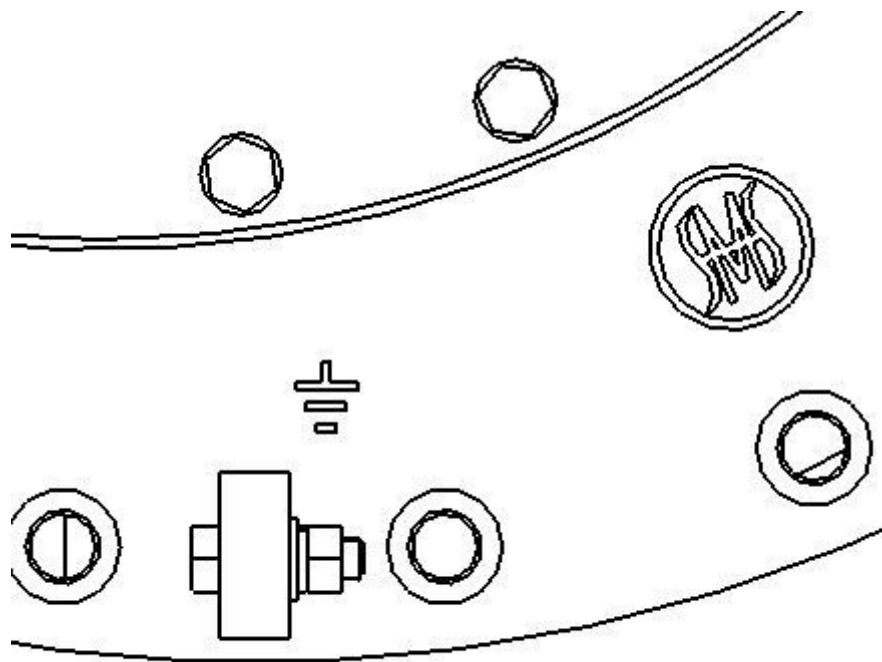

Figure 28
1. Connect the grounding screws of the OLTC head (1 screw M12 with nuts, wrench 19, torque 50-60Nm) to the transformer cover (Figure 28).